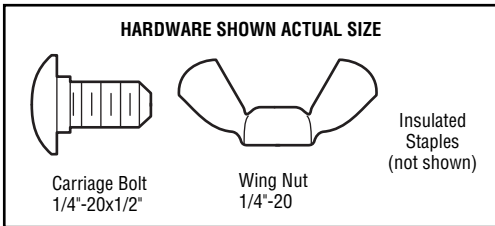

Figure 1
1. Slip the curved arms over the rounded edge of each door track, with the curved arms facing the door. Snap into place against the side of the track. It should lie flush, with the lip hugging the back edge of the track (Figure 1).